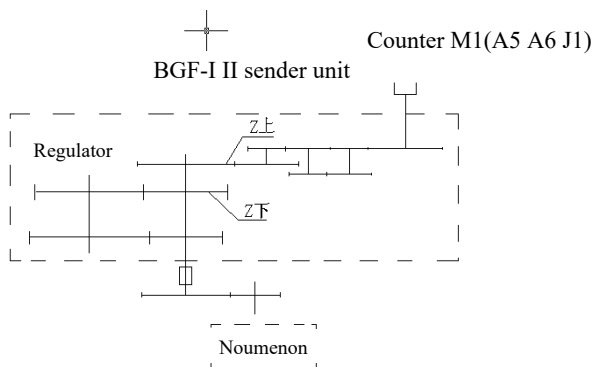

FIG. 5
2.2 Flowmeter in use, due to different working conditions and changes, the error often changes, may be out of tolerance, as long as the error range does not exceed 1%, generally can be adjusted to qualified, such as the instrument error drops to +0.2 ~ -0.69, and need to replace the double-layer gear, first should see how many teeth of the double-layer gear, if 38/35 is adjusted according to (1) method, If it is 43/41 gear, the corresponding error +0.64 of the gear should be taken as zero (that is, the coordinate origin), then the 43/41 gear should be changed into 41/39 double gear, then the error curve origin will be moved down from the zero position corresponding to 43/41 to the +0.40 position of 41/39 gear. In this way, the error can be adjusted to the range of +0.44 to -0.45 to ensure conformity (see Figure 5).